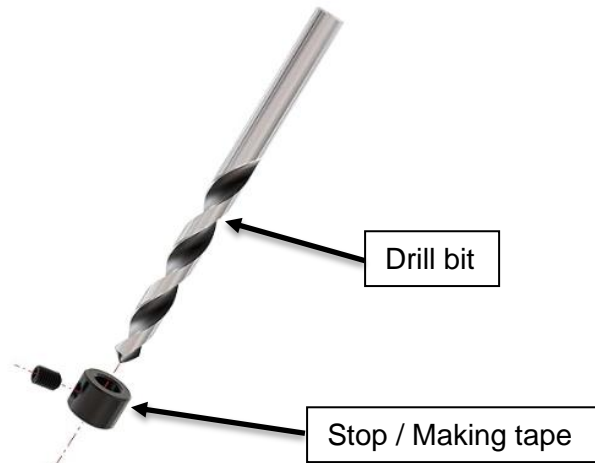

Figure 6: Drill bit depth marking.
Step 4: Attach a drill bit limit ring, or apply a visual depth marker (e.g., masking tape), to the 8 mm high-speed steel (HSS) drill bit at 25 mm from the drilling edge to ensure controlled and consistent drilling depth. Refer to Figure 6.
Step 7: Attach a drill bit limit ring or apply a visual depth marker (e.g., masking tape) to the 5,1 mm high-speed steel (HSS) drill bit at 25 mm from the drilling edge to ensure controlled and consistent drilling depth. Refer to Figure 6.
- Step 12: Attach a drill bit limit ring or apply a visual depth marker (e.g., masking tape) to the 6 mm or 7 mm high-speed steel (HSS) drill bit at 25 mm from the drilling edge to ensure controlled and consistent drilling depth. Refer to Figure 6.